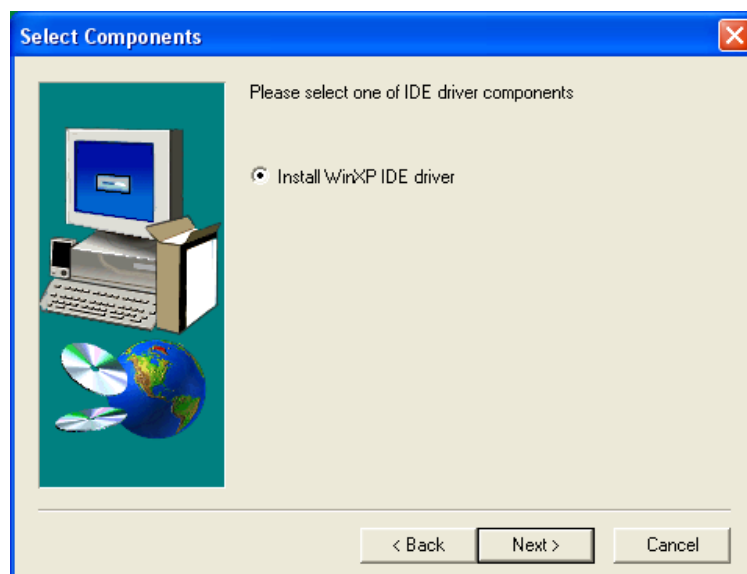

Figure 7-23: IDE Driver Component Selection
Step 10: The screen in **Figure 7-23** appears.